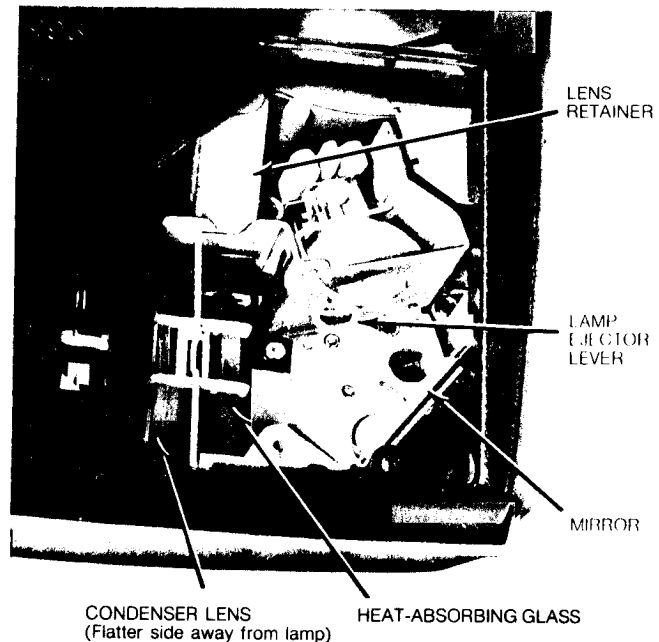

FIGURE 11
Release the LAMP EJECTOR LEVER (Figure 11) from the notch in which it is secured, and lift the lever to eject the lamp from its socket. Withdraw the lamp, noting how the two pins on its base fit into the socket.
*For more even screen illumination when using the filmstrip adapter with this projector, it is recommended that the CONDENSER LENS (Figure 11) be replaced with Kodak Part No. 625889. (Utilization of this substitute condenser lens with slides will result in a slight decrease in the projector's light output.) See your supplier of Kodak audiovisual products or write to Eastman Kodak Company, Dept. 641, Rochester, N. Y. 14650.